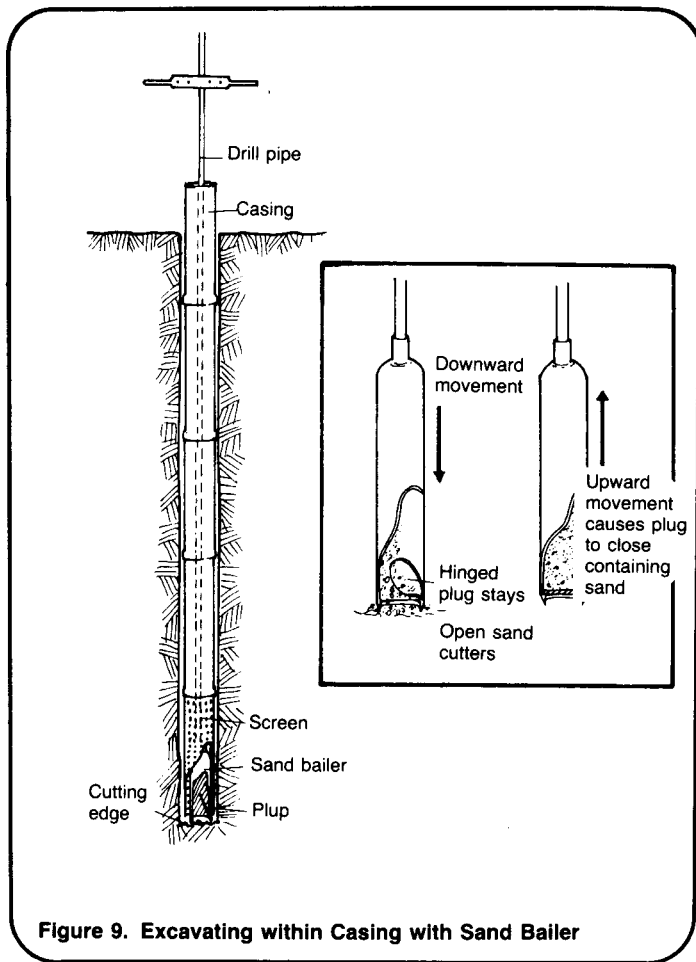

Figure 9. Excavating within Casing with Sand Bailer
7. Replace the auger with a sand bailer or an auger that fits inside the casing. Lower the bailer or auger and drill pipe into the casing and continue boring. See Figure 9. As the shaft is sunk, the casing will move down and more sections of casing will have to be added on top.